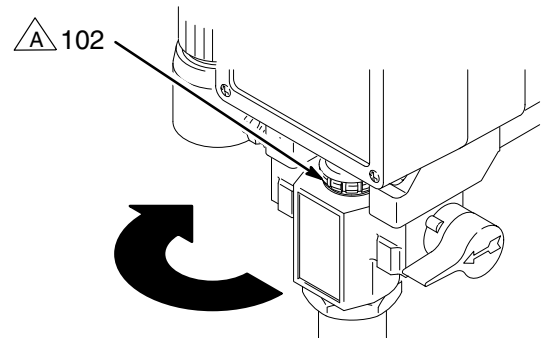

Fig. 11 _____ **031**
1. Check the packing nut/wet-cup (102) daily. Relieve pressure first. Keep the wet-cup 1/3 full of TSL at all times to help prevent fluid buildup on the piston rod and premature wear of packings.
2. Tighten the packing nut/wet-cup (102) just enough to stop leakage. Over-tightening causes binding and excessive packing wear. Use a round punch or brass rod and a light hammer to adjust the nut. See Fig. 11.